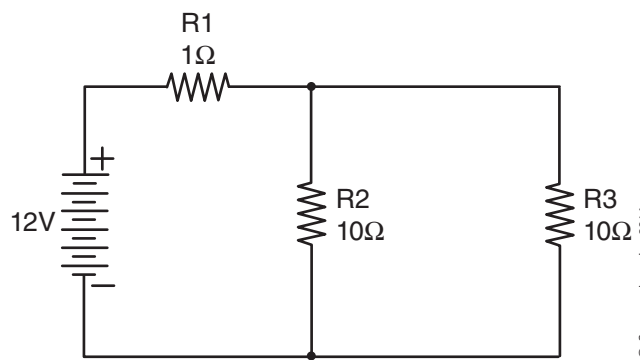

Figure 2-58
13. Solve for the following values shown in **Figure 2-58**: